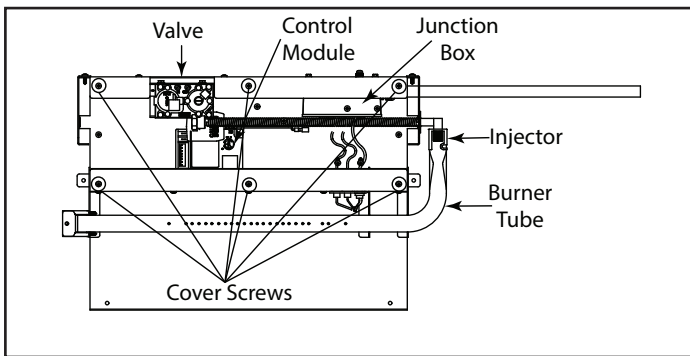

Figure 6.1. Engine Assembly
The valve and controls are located in the rear of the engine inside the burner assembly. See Figure 6.1.
The control box and controls can be accessed by removing the top cover plate secured with six (6) screws shown in Figure 6.1